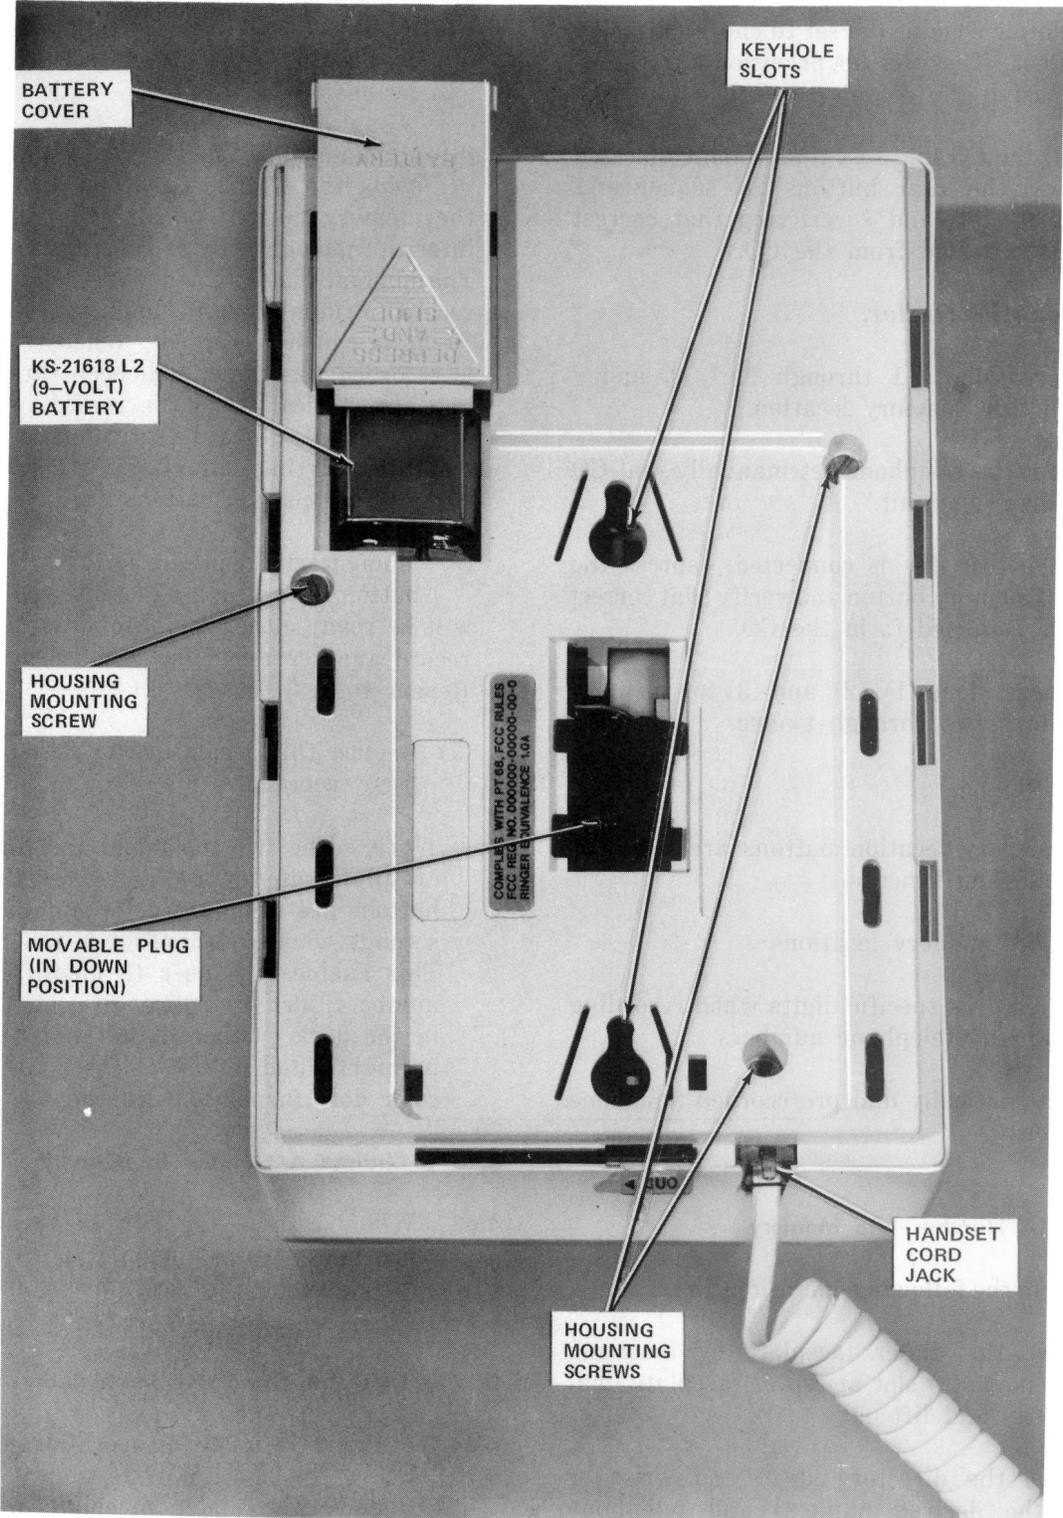

Fig. 3—5011T01A Telephone Set, Bottom View
**3.01** The telephone set is shipped with a 9-volt alkaline battery, to be connected at the time of installation. Remove the battery cover on the rear of the set and make the necessary connections. Place the battery in the battery compartment and close the cover (Fig. 3).
**3.03** The rear of the set is recessed with two keyhole type slots (Fig. 3). Be sure the movable plug is in the down position as shown in Fig. 3. Align the keyhole slots with the mounting studs on the 630-type connecting block. Push the set in and down engaging the set to the connecting block. Connect the handset cord to the set.